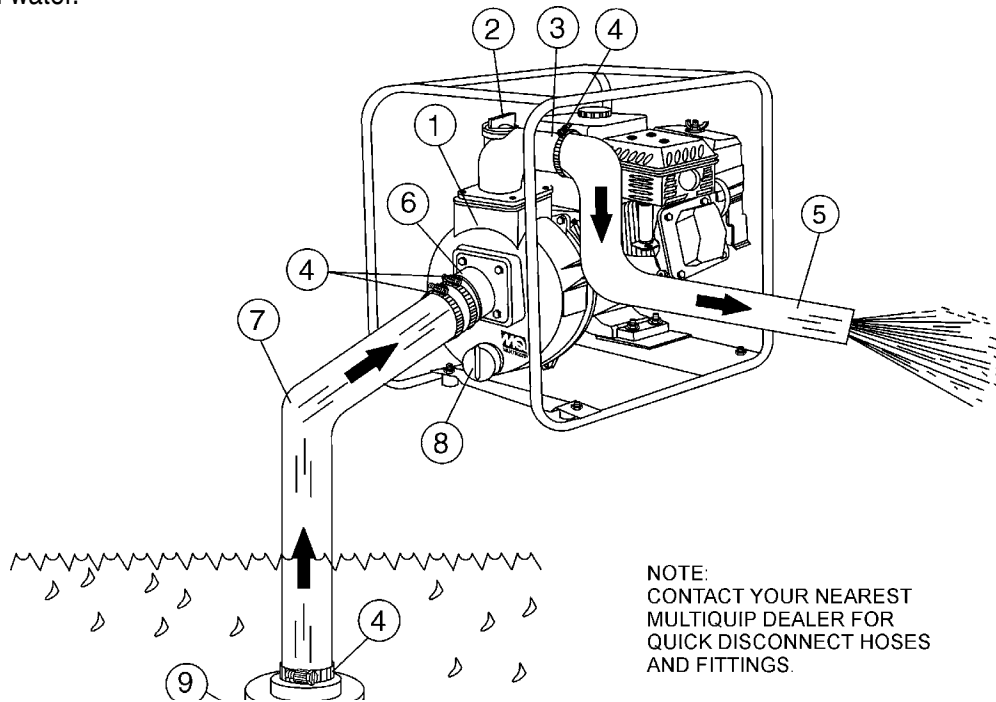

Figure 3. QP2TH Pump Application
Figure 3 shows a typical application using the QP2TH centrifugal pump. Please note that this pump is intended for the removal of clean water.
2. To prime pump, remove fill cap (See Figure 3) and fill pump casing with water. If the pump casing is not filled with water before starting, it will not begin pumping.
3. Attach suction and discharge hoses to the pump. Check that all hoses are **securely** attached to the pump. Make certain suction hose (See Figure 3) does not have any air leakage. Tighten hose clamps and couplings as required.
6. Check that the **discharge** hose (See Figure 3) is not restricted. Place hose so that it lays as straight as it is possible on the ground. Remove any twists or sharp bends from hose which may block the flow of water.
8. Make sure the **suction strainer** (See Figure 3) is clean and securely attached to the water end of the suction hose. The strainer is designed to protect the pump by preventing large objects from being pulled in to the pump.